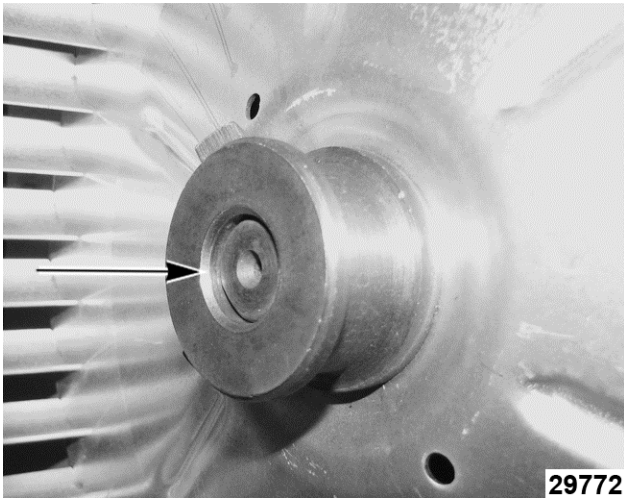

Fig. 23
- 1st GENERATION SHOWN IN Fig. 23 SN break ends at 482010857 (Skip to Step 2 for current production)**
Slide blower onto motor shaft until hub is protruding 1/8" (Fig. 23).